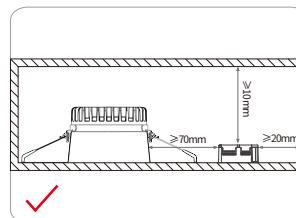

Figure 2
2. The driver keeps a certain distance from surrounding objects, as shown in Figure 2.